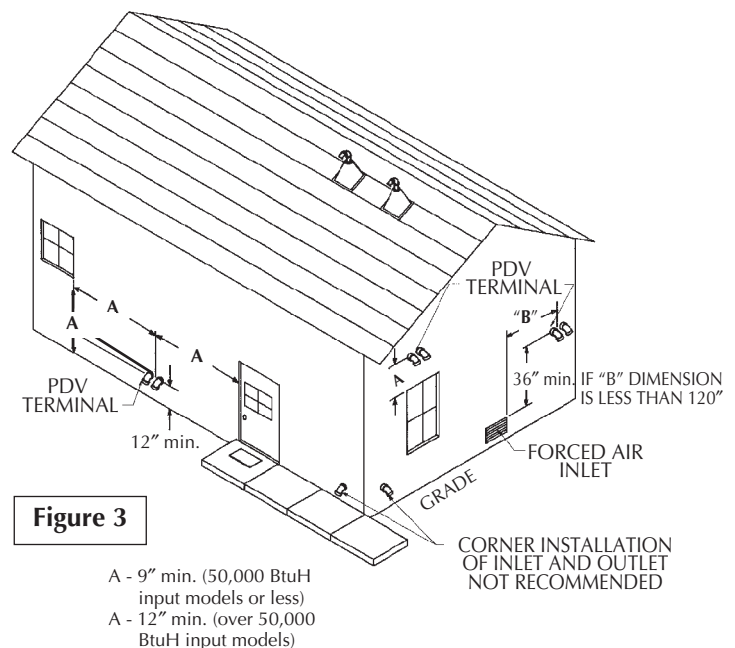

Figure 3
- The Power Direct Vent outlet terminal shall terminate at least 36" above any forced air inlet located within 10 feet. Figure 3.
- The Power Direct Vent outlet terminal of 50,000 BtuH input models or less shall terminate at least 9" below, 9" horizontally from or 9" above any door, window or gravity air inlet into the building. Figure 3.
- The Power Direct Vent outlet terminal of over 50,000 BtuH input models shall terminate at least 12" below, 12" horizontally from or 12" above any door, window or gravity air inlet into the building. Figure 3.